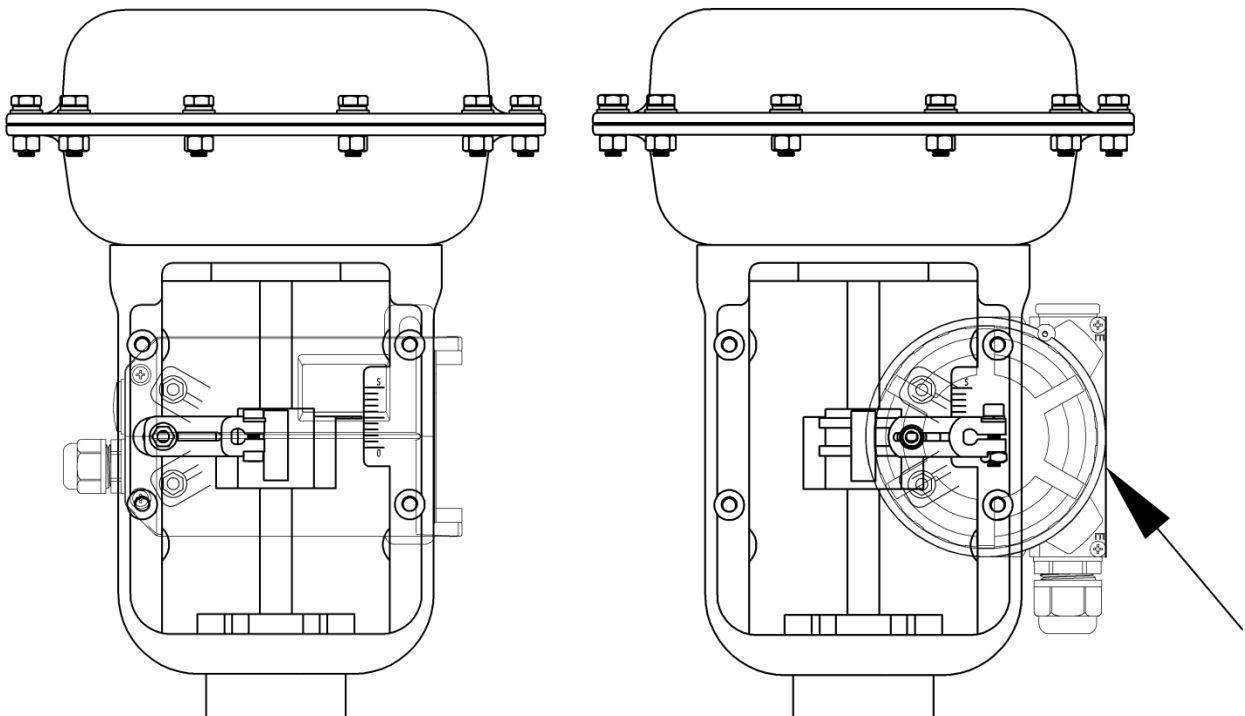
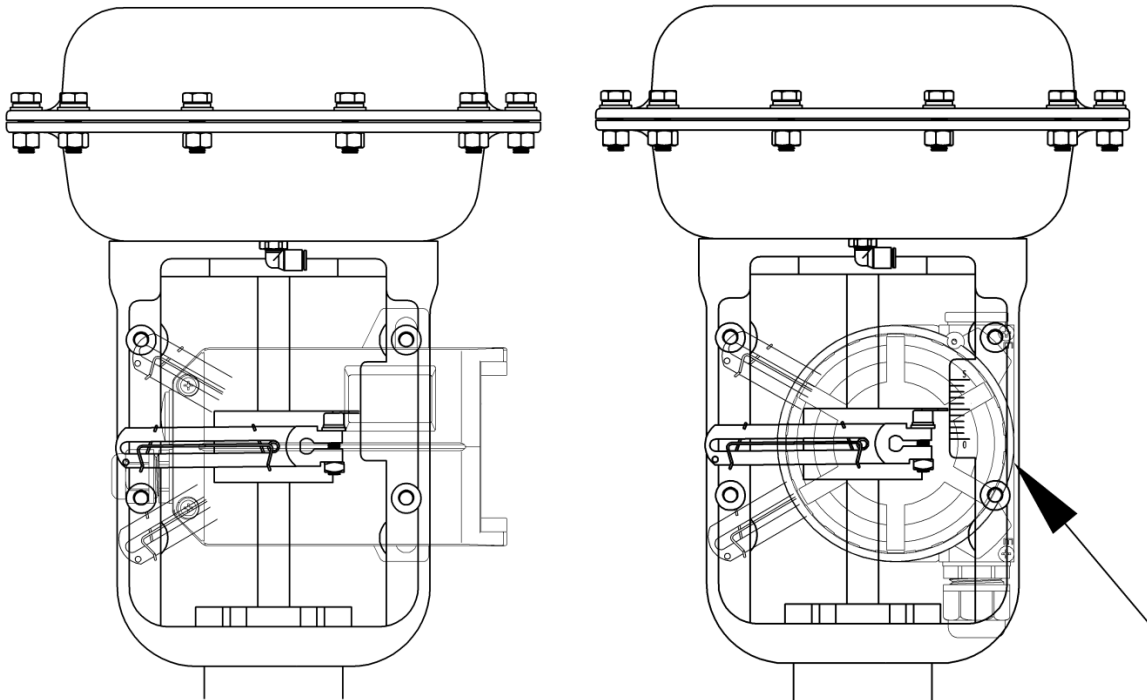

Figure 21. Installation with actuator (Feedback lever A)
Figure 22. Installation with actuator (Feedback lever B)
- For the positioner of normal linear type, make the upper plane of the positioner housing at a right angle to the main stem of the valve. For the positioner of remote linear type, make the plane indicated by the arrow (on the right side of Figure 21 and Figure 22) on the sensor housing and the main stem of the valve are parallel to each other. Otherwise it will affect the control accuracy. Finally, tighten the bracket with bolts.